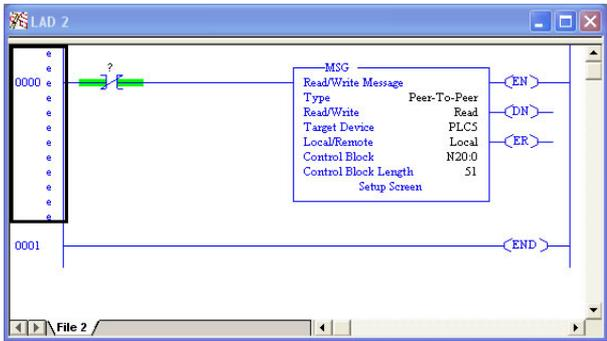

Figure 120: PLC Program after MSG Instruction Configuration
- f) Close the dialog box. At this point, the program should appear as shown in Figure 120.